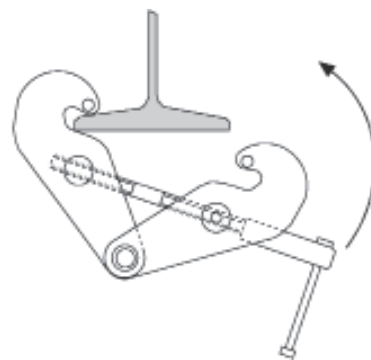

Fig. 7
- Open the load lifting attachment by turning the spindle counter-clockwise until it can be set down onto the beam (Fig. 7).